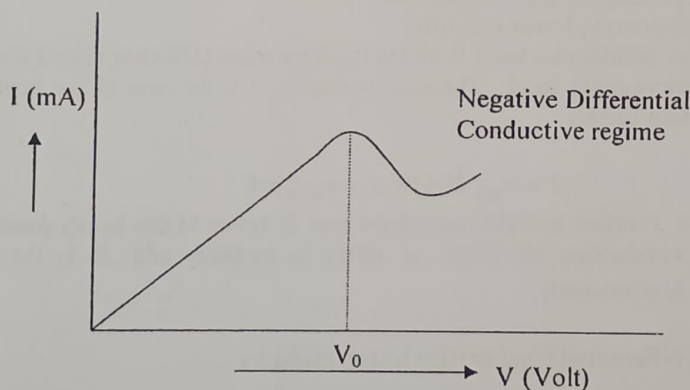

Fig. 1
Set the Gunn assembly micrometer at 5 mm. Disconnect the terminal from PIN modulator (BNC connector male (M) end) and keep the PIN bias knob full CCW. Connect the Gunn power supply to the Gunn diode through a BNC (M) to BNC (M) connector of Gunn bias. Set the voltage control knob to full counter clock wise (CCW) i.e. minimum Gunn bias and selector switch to current position. Now switch on the power supply, the display would indicate Gunn current. **If the current displayed in the digital panel meter (DPM) at any moment exceeds 850 mA switch-off the power supply immediately. The Gunn diode might have gone defective.** Note the current reading against the voltage. Change the Gunn bias in steps of 0.1 V by rotating the voltage control knob gradually clockwise. Read the Gunn bias voltage with digital voltmeter. Make use of a BNC T-connector. Plot the I vs V curve. The curve would look like as shown in Fig. 1.